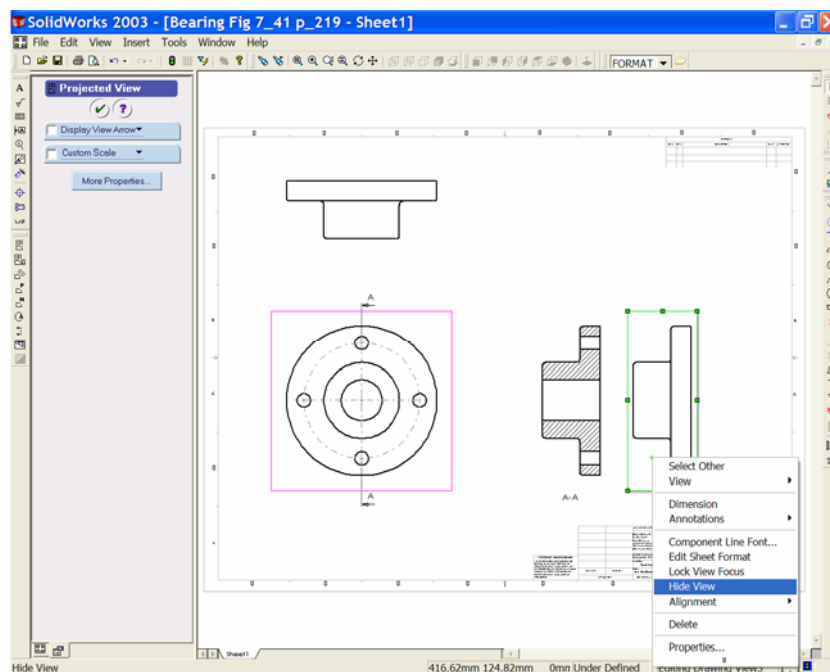

Figure 8
12. The Standard Right End Elevation is not required and may be hidden. Right click inside the border of this view and choose '**Hide View**'. See Figure 8.